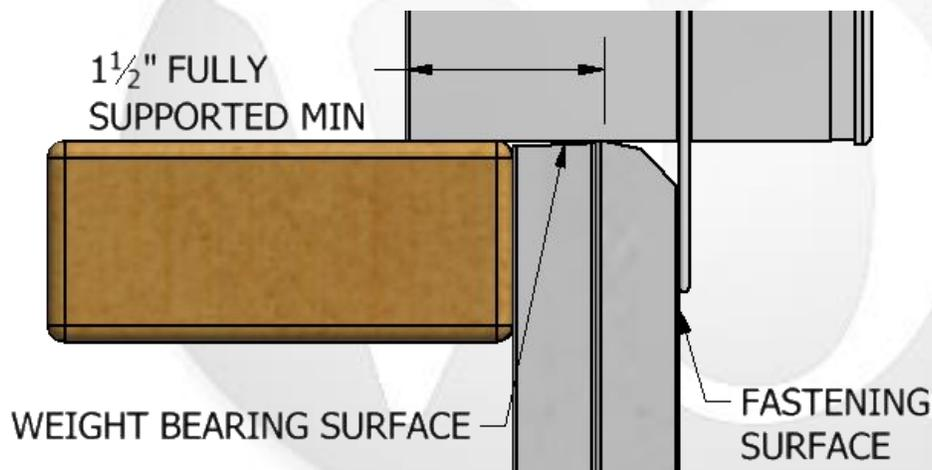

Figure 3 Acceptable Condition (minimum supported area)
- B) Window's sill must be fully supported for 1 1/2" along the sill's weight bearing surface, starting from the inside edge of the frame. (See Figure 3)